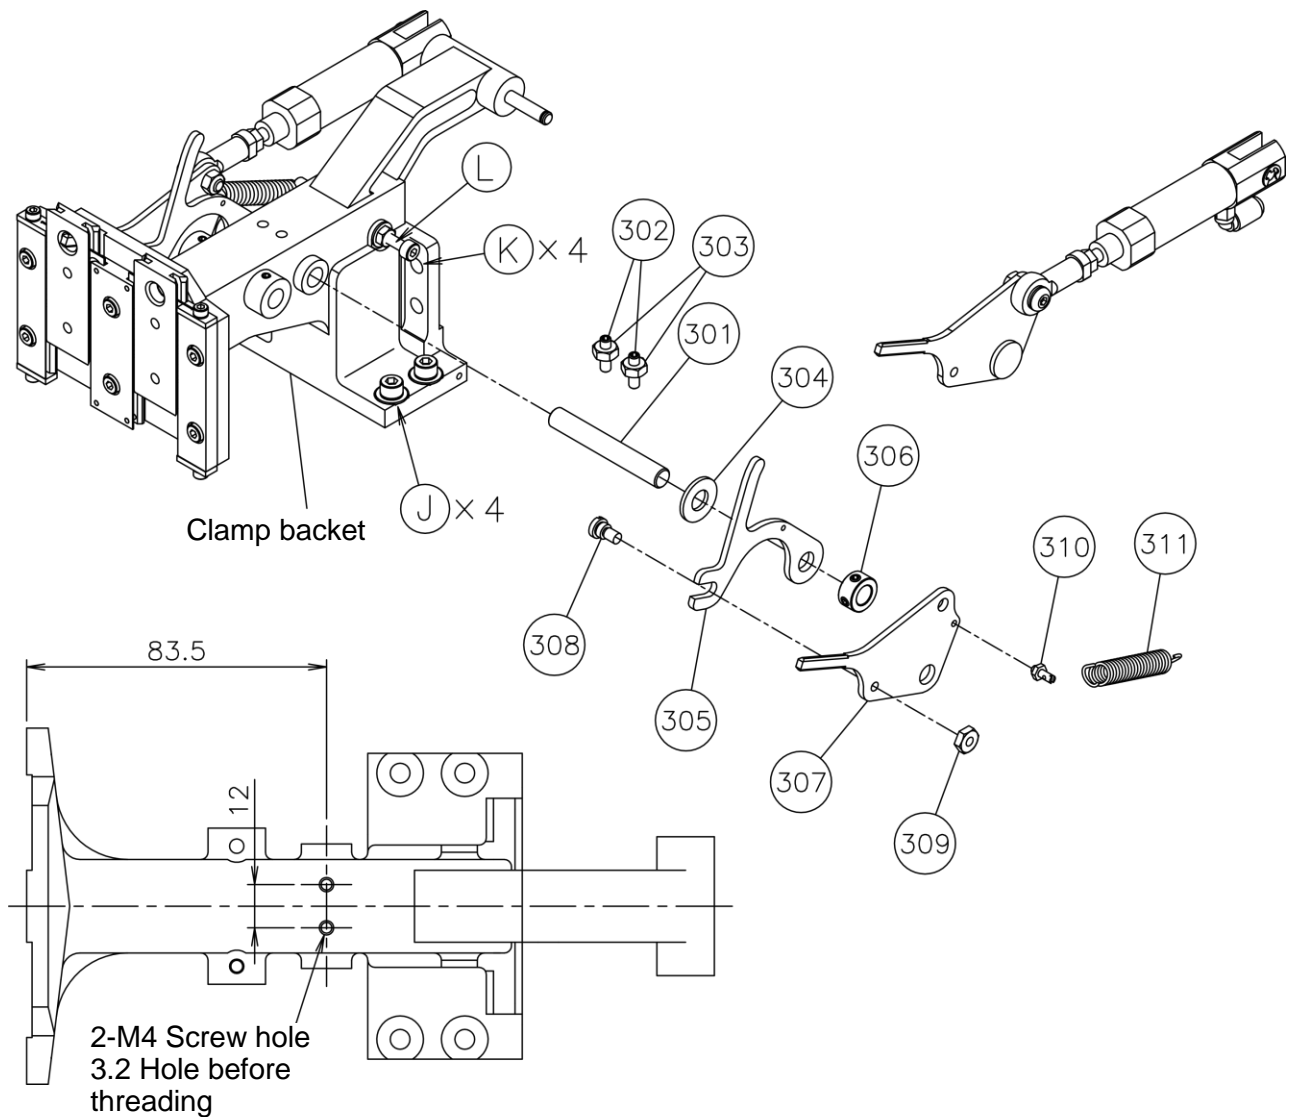

Fig.4 Clamp mechanism assembly figure
- 1) Confirm whether there is the screw hole in the rear of the clamp bracket which removed in step 1-2.2). When there is not the screw hole, please process the screw hole at the position of figure 4.
- 2) The shaft (301) is fixed to the even position of clamp bracket by the two screws (302).
- 3) Pass the washer (304) and the right lever (305) through the shaft (301), and fixes by the collar (306).
- 4) Fix the right lever (305) and the cylinder lever (307) by the screw (308) and the nut (309).
- 5) Fix the post (310) to the cylinder lever (307).
- 6) Pass the top of spring (311) through the post hole (310). Hang the other side on the L bolt.